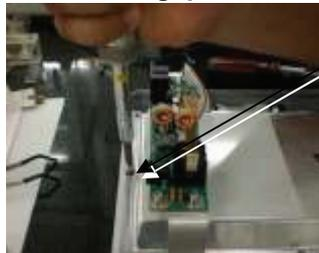

Fig. 2-7
- * **With the unit cover (B5) rear screw as the base, align with the center of the pan supporter axis and the 15.5-dia. hole to amount the other screws. (Fig. 2-7)**